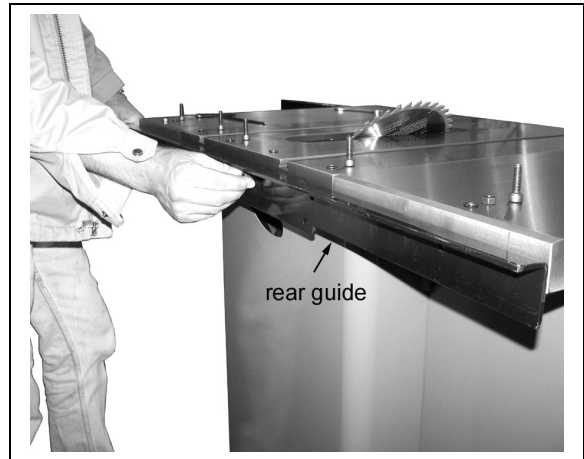

Figure 6
3. Install the rear guide as shown in Figure 6 using the supplied hardware. Note that the two outside holes require a nut and washer as well as a bolt while the four inside holes require the bolts and washers only.